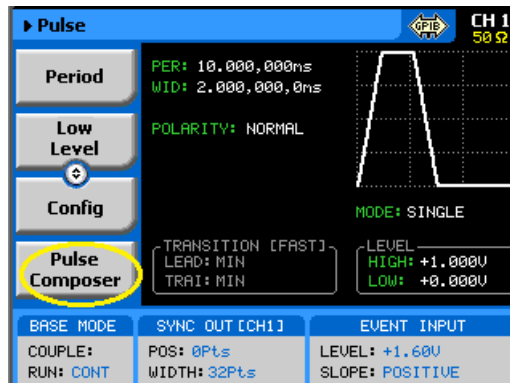
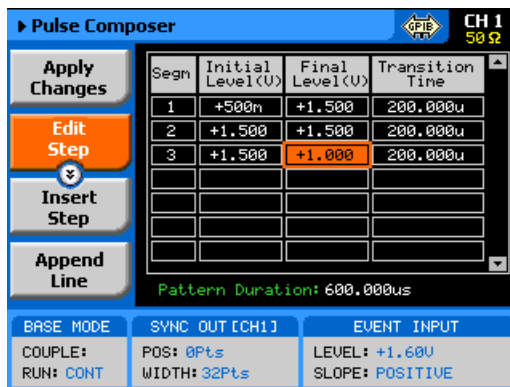
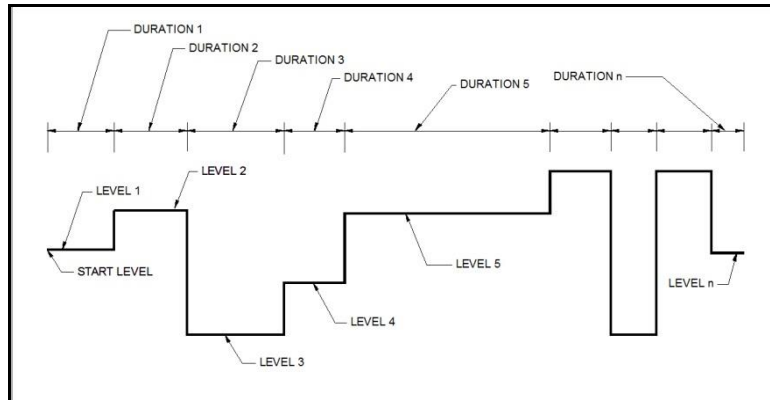
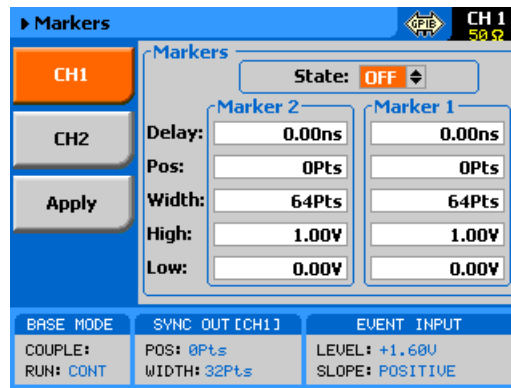

Figure 3-71, Access the Pulse Composer Menus
Figure 3-72, Pulse Composer Menus Example
Figure 3-74, "Fast" Transition Pulse Example
Figure 3-77, Marker Menus
- Press the Pulse Composer soft key and observe the Pulse Composer editing fields as demonstrated in Figure 3-71.
Always, as the first step before you start building your patterns, make sure that you are building the correct configuration, fast or linear. Scroll down to the Transition Type, as shown in Figure 3-72 and select the proper pulse composer configuration setting. The default setting is “Fast” so you need not do any action if this is what you intend to create.
Figure 3-72 demonstrates a simple fast transition pulse pattern. Notice that the pattern is built from segments, each having level and duration. Levels are specified in volts and duration is specified in seconds. Each level can have a unique amplitude level and duration as long as these reside within the range that is specified in Appendix A. Also note that the table entries in Figure 3-71 were not used to build the pulse pattern as shown in Figure 3-72.
To access the pulse composer tab menus, simply press one of the tabs and modify or select the parameters that are associated with this specific tab. When the pulse composer has been selected, the composer tabs, as shown in Figure 3-71, will allow access to the following parameters:
Patterns that have “linear” transitions are those that use the slow transition times (rise and fall times). Figure 3-72 demonstrates a simple linear transition pulse pattern. The pattern is built from segments, each having an initial and final level and a transition time. Levels are specified in volts and transition times are specified in seconds. Each segment can have a unique amplitude level and transition time as long as these reside within the range that is specified in Appendix A. Note that the table entries in Figure 3-75 were not used to build the pulse pattern as shown in Figure 3-74.
To select the linear transition option, scroll down to the Transition Type and select the “Linear” option, as shown in Figure 3-74. The linear pulse composer table is shown in Figure 3-77.
Press the Store/Recall button in the Control group on the right side of the instrument. This will cause the display to show the Store/Recall panel, as shown in Figure 3-77. There are four soft-key buttons in this display: Store, Recall, List and Update. Information on how to use the keys to store and recall setups on different media options is given below.